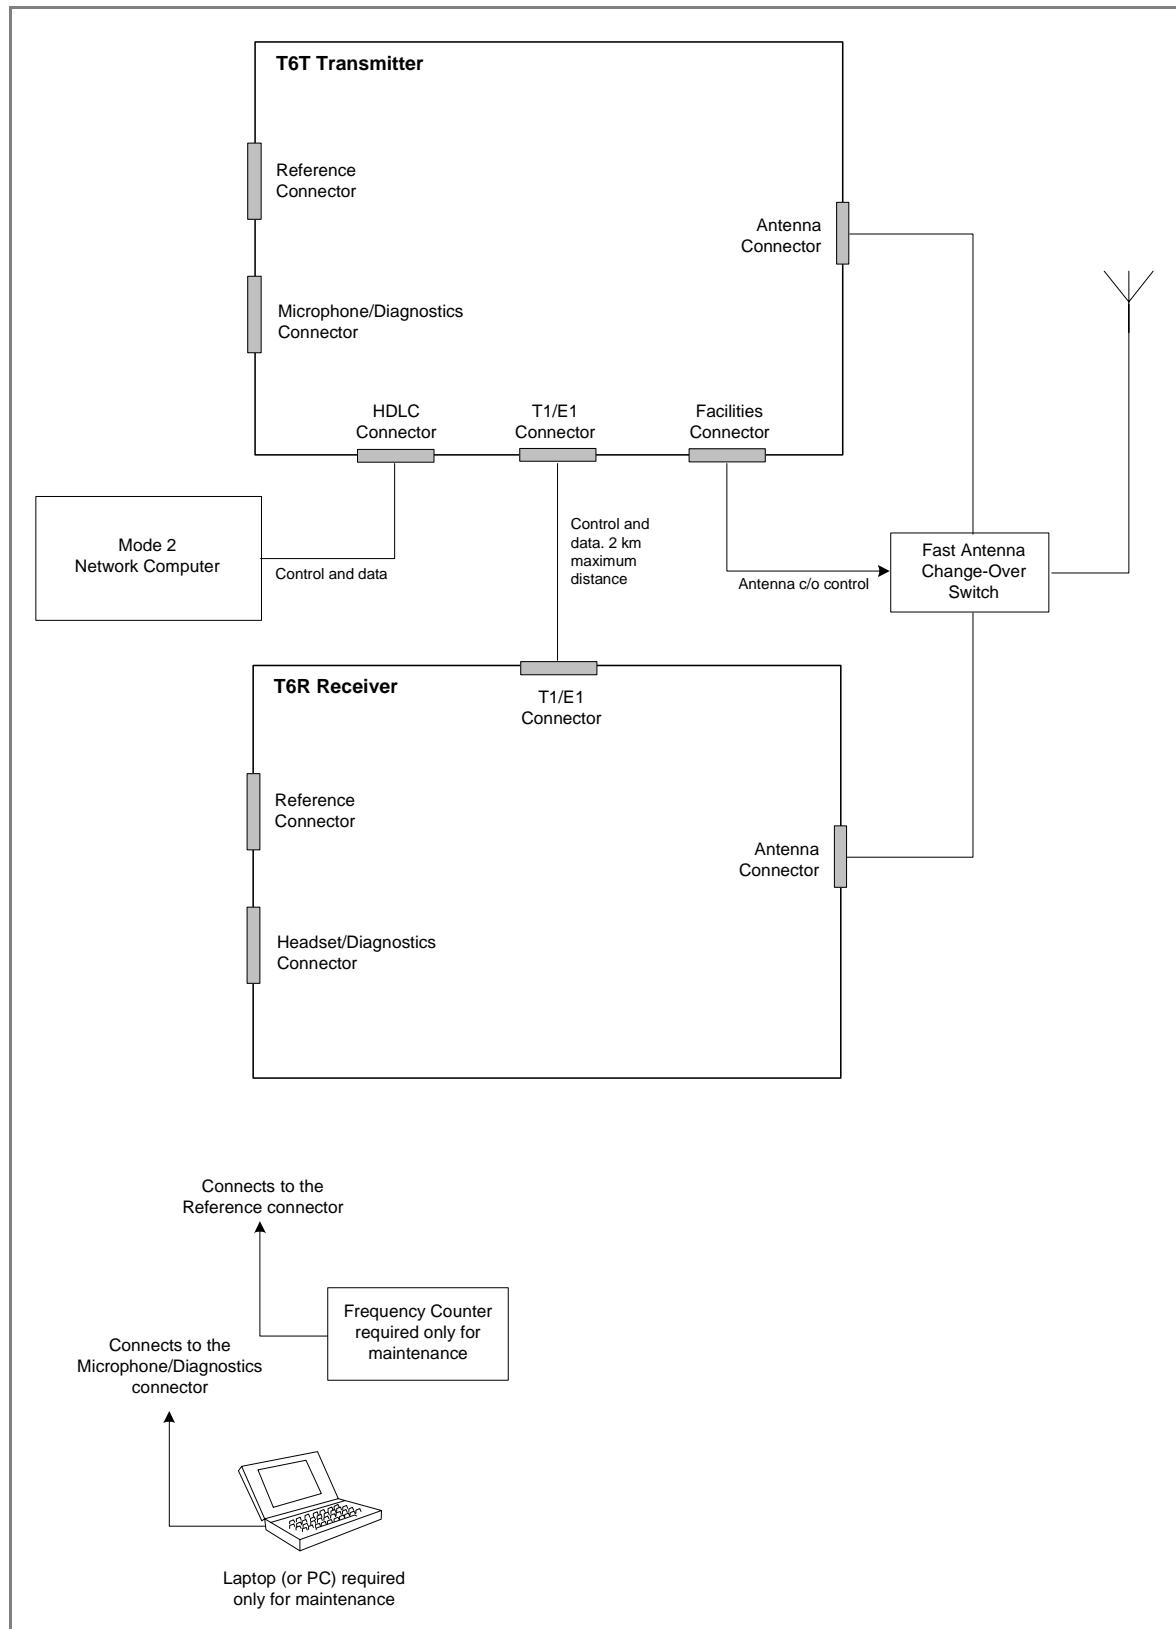

Fig 4 T6T Transmitter Mode 2 Configuration
- T6T Mode 2 configuration (see Fig 4).